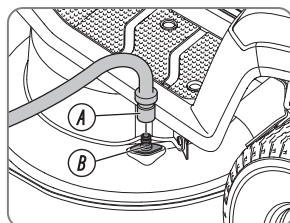

Fig. 35
5. Connect a garden hose (A) to the deck washout port (B) and start the water supply (Fig. 35).